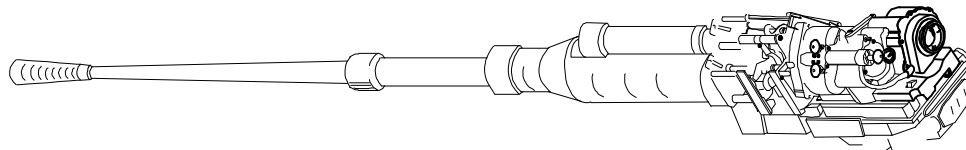

Figure 1-2. M242 25mm Automatic Gun.
The main armament of the LAV-25 is a 25mm, fully automatic, externally powered Bushmaster chain gun. (See fig. 1-2.) The M242 is turret-mounted with a 360-degree field of movement. The M242 is used to destroy lightly armored vehicles (BMPs, BRDMs, BTRs, etc.) and some aerial targets, such as helicopters and slow-flying aircraft. It is also used to suppress enemy positions such as troops in the open, in dug-in positions, or in built-up areas. See Technical Manual (TM) 08594A-10/1B, *LAV-25 Turret*, for detailed operator information.